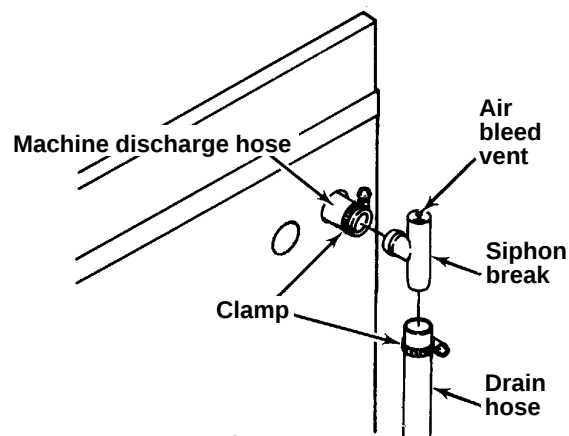

Figure 3
2. Install siphon break to machine discharge hose, using clamp supplied. See Figure 3.
3. Install drain hose to siphon break as shown in Figure 3, using clamp supplied. Cut to fit the particular drain installation.